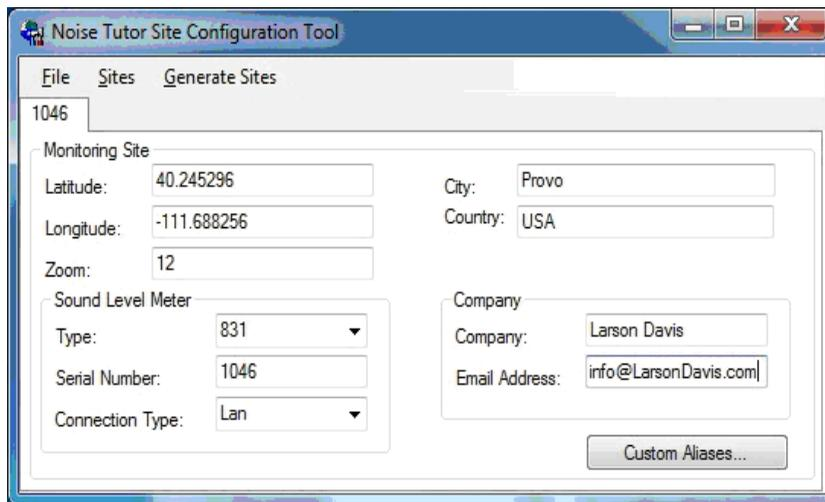

FIGURE 2-20 Configuration Tool - Information Launch3
Step 5 For Monitoring Site information, provide decimal values for the **Latitude** and **Longitude** coordinates of your site, as shown in FIGURE 2-20. Refer to Google Maps, or another map service for help in finding these values for your site.